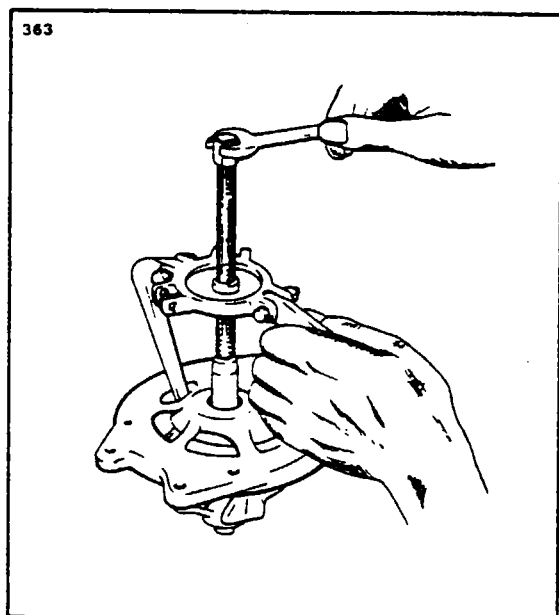
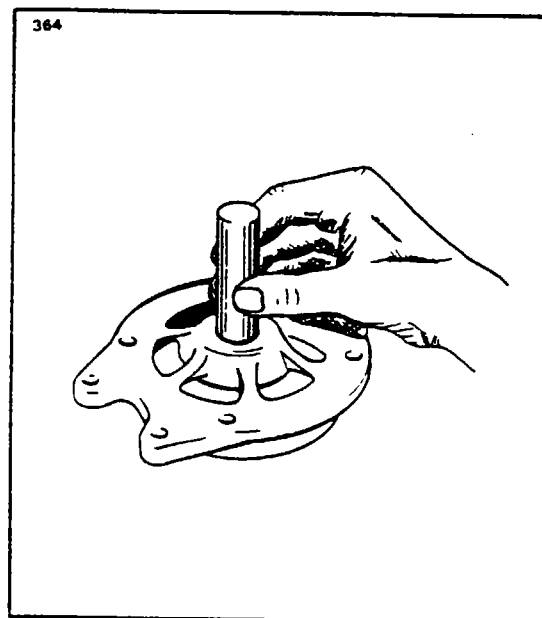

Figure 11-20. Removal of Drive End Head
Figure 11-21. Removal of End Head Bearing
f. To remove the drive end head from the rotor shaft, use a puller that grips on the bearing retainer plate as shown in Figure 11-20. Do not attempt to remove by supporting the end head and pressing on the shaft, as this may result in distortion of the end head or stripping of the retainer plate screws. Remove the three retainer plate screws and press the bearing out of the end head. (Refer to Figure 11-21.)